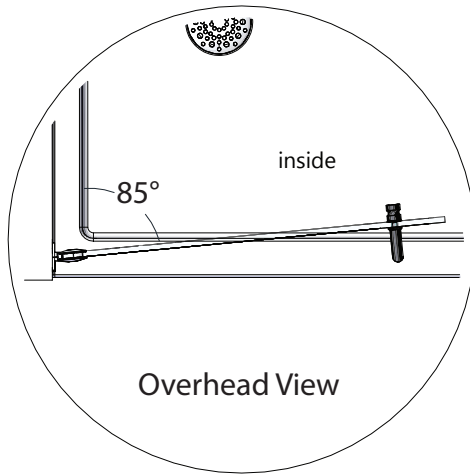

Fig 1a
2) The hinges are factory set to close at 85° (**Fig 1a**). The closing angle can be changed by using the adjustment screws on the hinge faceplate.